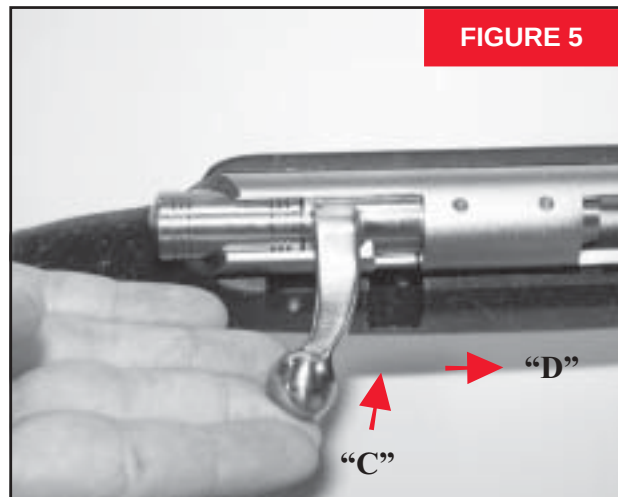

FIGURE 5
2. Cycle the Bolt Handle up, as per arrow “C”, then forward, as per arrow “D” (Figure 5).